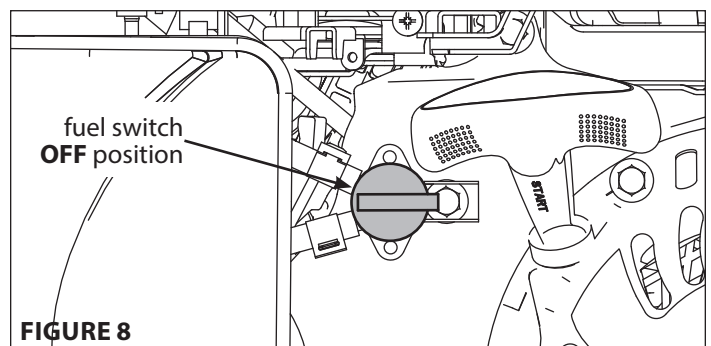

FIGURE 8
3. Move the fuel lever to the **OFF** position. **SEE FIGURE 8**